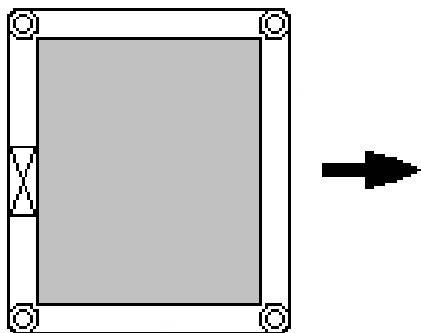

Figure 1.
STEP 5.) Inspect the reserve slider for correct installation. (See Figure 1.) **NOTE:** This is a slider for a reserve canopy, there should not be any type of hole in this slider what so ever.